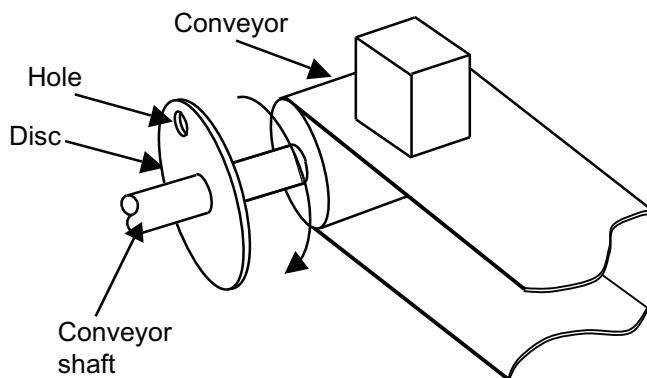

Fig. 2(c)
- (ii) The conveyor shown in **Fig. 2(c)** is required to move a distance of 60 mm at a uniform speed in a period of five seconds where one pulse to the stepper motor driver causes the conveyor to move by 0.2 mm. An astable timer is used to provide the input pulses to the stepper motor driver. Determine the required frequency of the astable timer. [3]
- (iii) When the conveyor in **Fig. 2(c)** moves by 80 cm, the disc will rotate four times. A PIC is to be used to count the number of rotations and stop the stepper motor after the fourth rotation for 15 seconds for the component to be heated. Design a circuit that will drive and control the stepper motor. Your answer should include an appropriate flowchart program. Assume the phototransistor arrangement at the disc provides a 5 volt pulse each time the disc rotates. [10]